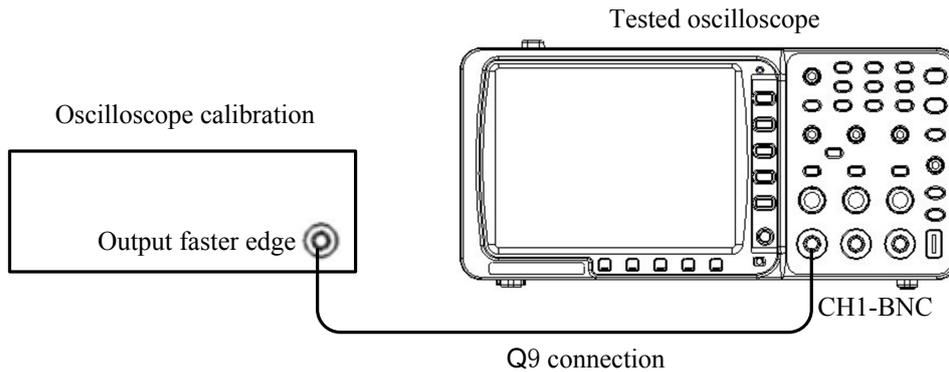

Figure 5: Connection of transient response inspection
A. As shown by Figure 5 connected: